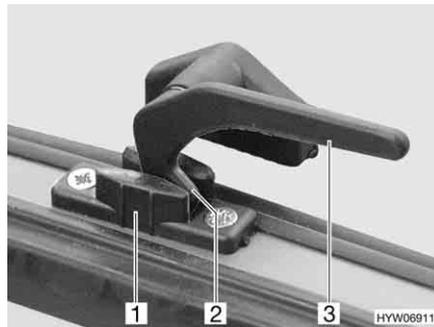

Fig. 61 Catch lever in the "continuous ventilation" position
- "Continuous ventilation" (Fig. 61)
- Turn the catch lever (Fig. 61,3) a quarter turn towards the centre of the window.
- Turn the catch lever a quarter turn towards the window frame. The locking catch (Fig. 61,2) has to be moved into the recess of window catch (Fig. 61,1).